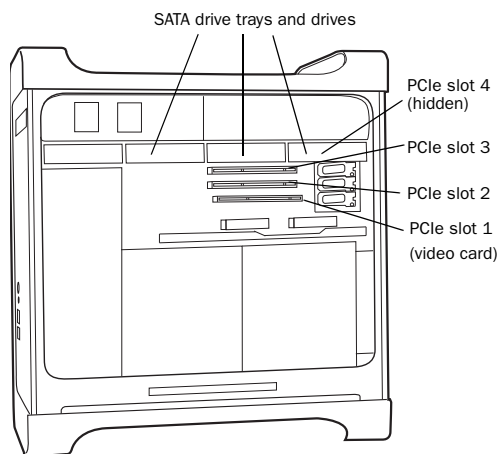

Figure 1. Mac Pro
- 8 Install the Pro Tools|HD Core card into the lowest-numbered slot in the computer (slot 2). This will be the slot closest to the video card, as shown in Figure 1 on page 11.